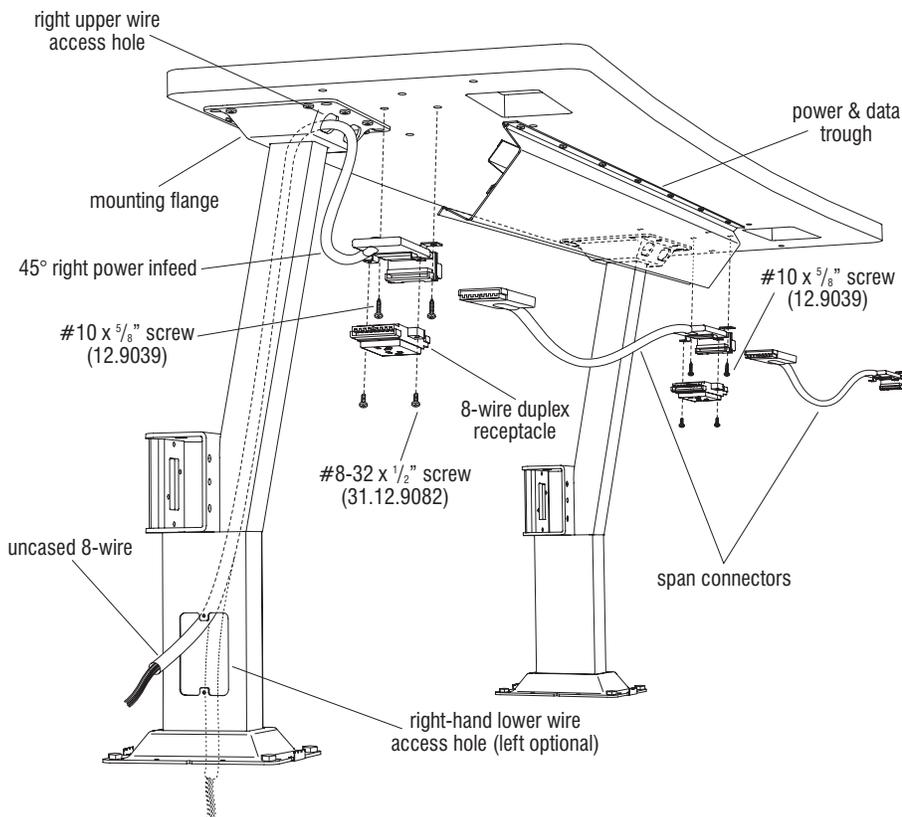

Figure 8 - Right Power Infeed
**Note:** If power and/or data lines are to enter a base from below floor level (no exposed connections), the data and power connections must be made prior to securing the base flange to the floor. The power infeed harness (45° right or left/center) must be run down through the mounting flange, column and base flange at this time. Connections must then be made. Refer to the space-planning layout for infeed type and see figures 8 or 9. Data wires must run up a separate column, following a similar route as the power.
21. Fasten the hinge side of the trough to the underside of the top with the #10 x 3/8" screws provided and torque to 25 in/lbs. All screw holes in the trough must be utilized. The power & data trough can be left hanging open for installation of the electrical and data cabling (Figure 8).
**Note:** The 45° right power infeed (Figure 8) is to be used at the beginning of an electrical run where the power feeds into the lower wire access hole at the right side of a run of units (facing the front of the room). The 45° left/center power infeed (Figure 9) can be used in two circumstances. One is where power is to enter a run of units from a lower wire access hole at the left side of a run of units (facing the front of the room), and the other circumstance is when the power infeed is to enter at the center of a run of units.
- For **right power infeed** configurations, feed the uncased 8-wire end of the 45° right power infeed first through the "right upper wire access hole" in the top mounting flange, and then down the base and out of a lower wire access hole (Figure 8). Mount the opposite end of the 45° right power infeed to the underside of the top with two #10 x 5/8" screws provided at the guidemarks drawn through the hardboard template in step 20. Torque screws to 25 in/lbs. To extend power to the next station for **right infeed** configurations, insert and click the plug end of a span connector into the mounted end of the span connector and fasten the mounting end to the table top at the next set of electrical guidemarks (Figure 8).
- Look to the left side of the table top underside (facing the front of the room) for the electrical guidemarks that were drawn through the hardboard template. For either **right or left infeed** configurations (Figures 8 & 9), mount a span connector to the underside of the table top with #10 x 5/8" screws provided at the electrical guidemarks and torque to 25 in/lbs. For **right power infeed configurations**, route the flexible conduit through the power & data trough and plug the span connector into the 45° right power infeed that was installed in step 23 (Figure 8).
**Note:** In both figure 8 & 9 illustrations, a right-hand lower wire access hole is depicted. Depending on the space-planning layout, a left-hand lower wire access hole may be specified.
26. Following the space-planning diagram, install 8-wire duplex receptacles with #8-32 x 1/2" screws provided to 45° right power infeed and span connectors (Figure 8), or distribution power end and span connectors (Figure 9). Tighten screws to 20 in/lbs to secure.